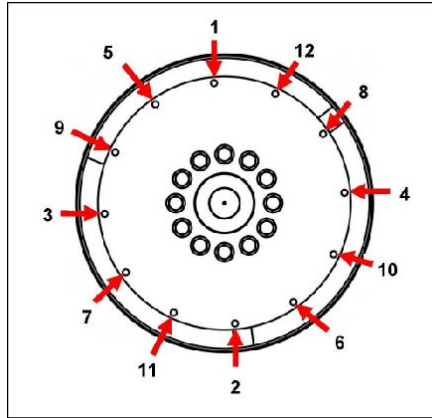

FIGURE 18. FIXING SEQUENCE
10. Remove the alignment dowels. Fit the coupling bolts, using heavy gauge washers under the heads. Tighten the bolts to fix the coupling disc to the flywheel, in the sequence shown in Figure 18 on page 32.